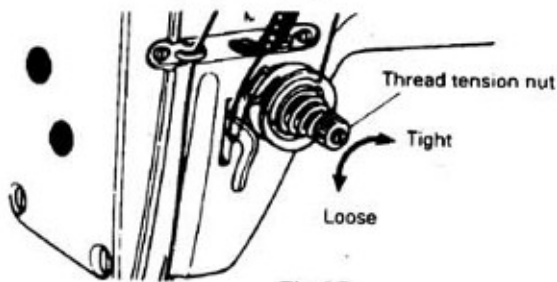

Fig.17
16. Upper thread tension (Fig.17):